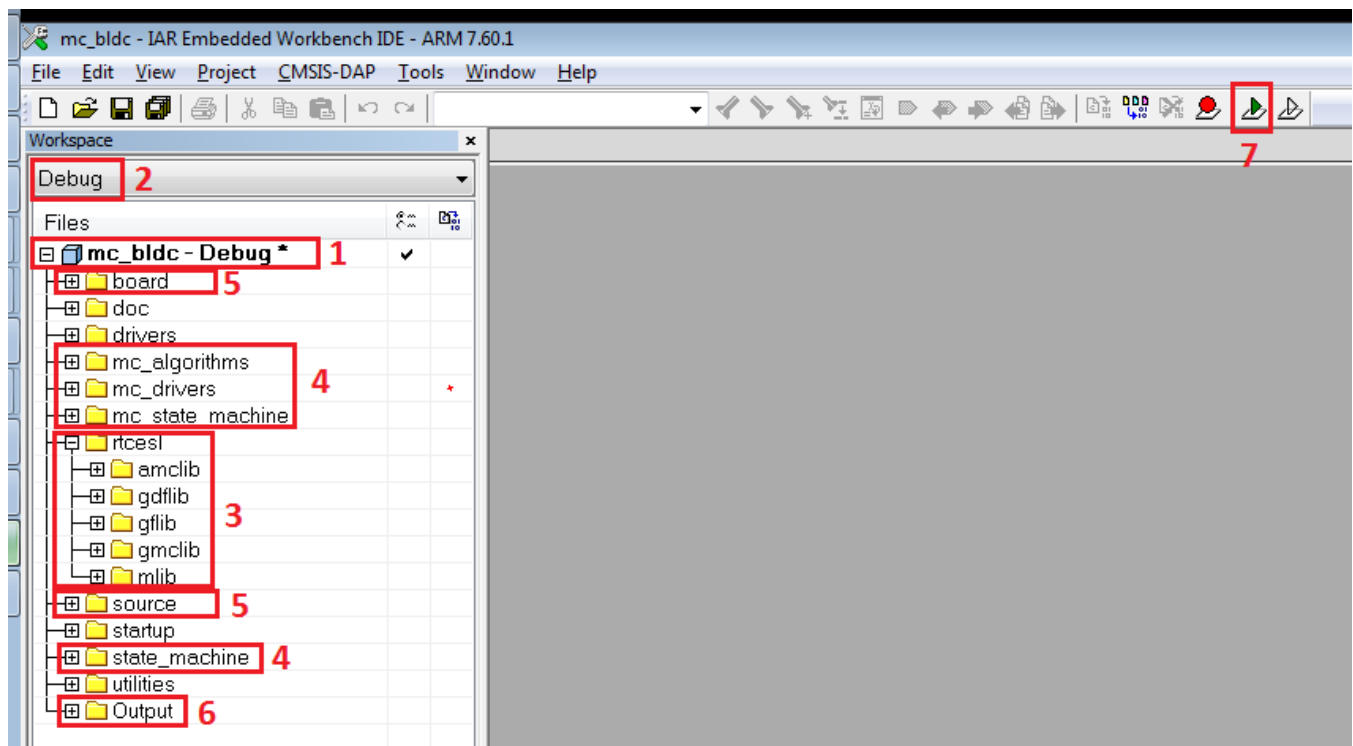

Figure 15. IAR Embedded Workbench IDE
The project opened in IAR Embedded Workbench is fully configured and includes all source and header files required by the application (such as the startup code, clock configuration, and peripherals' configuration). You can choose from two compiling conditions (“debug” or “release”) shown in Figure 15 point 2. Each of the two conditions has its own setting:
The source code shown in Figure 15 includes these source files and folders:
- Point 6—shows the output file generated by the compiler, and is ready to use with the default debugger (P&E Micro OpenSDA). This debugger is set as default for the Tower System boards, and can be changed in the project options by right-clicking Point 1, selecting “Options”, and clicking “Debugger”. Start the project debugging by clicking Point 7 (Figure 15).